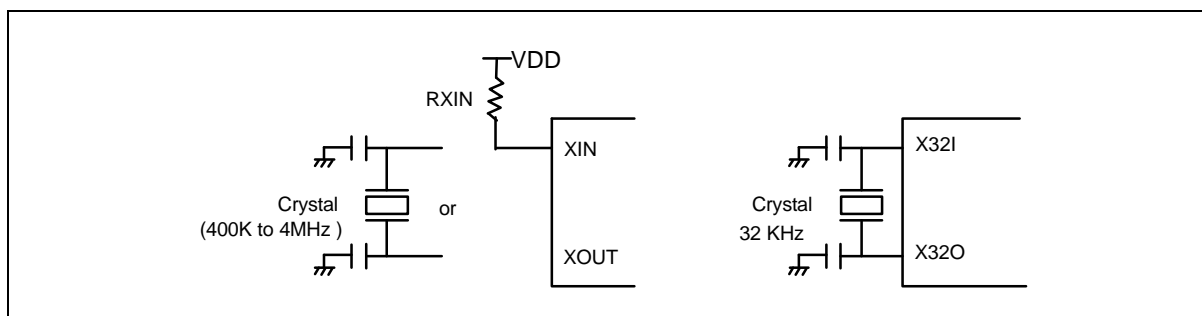

Figure 3. Oscillator Configuration
W53300/W53320 provides two oscillation circuits: main-oscillator (FM) and sub-oscillator (FS). The SCR (System Control Register) is incorporated to specify clock operation condition. Either main-oscillator or sub-clock can be the system clock (FOSC) by setting F32IN option bit (bit 0 of SCR special register). The main-oscillator starts oscillation when FMEN (bit 1 of SCR) is set to 1. Main-oscillator can select crystal or RC oscillation through external connections by setting special register FMRCB bit (bit 2 of SCR). If a crystal oscillator is chosen, a crystal or a ceramic resonator must be connected between XIN and XOUT, and a capacitor must be connected if accurate frequency is required. The oscillator supports clock frequency from 400KHz to 4 MHz. A 455 KHz ceramic resonator should be selected if an IR carrier output from RE3/TONE is needed. On the other hand, if the RC oscillator is selected, a resistor must be connected between XIN and VDD. The sub-oscillator must be connected to a 32.768 KHz crystal between X32I and X32O. The connection is shown in Figure 3. One machine cycle consists of a four-state system clock sequence, and can run up to 1 μ S with a 4 MHz system clock.